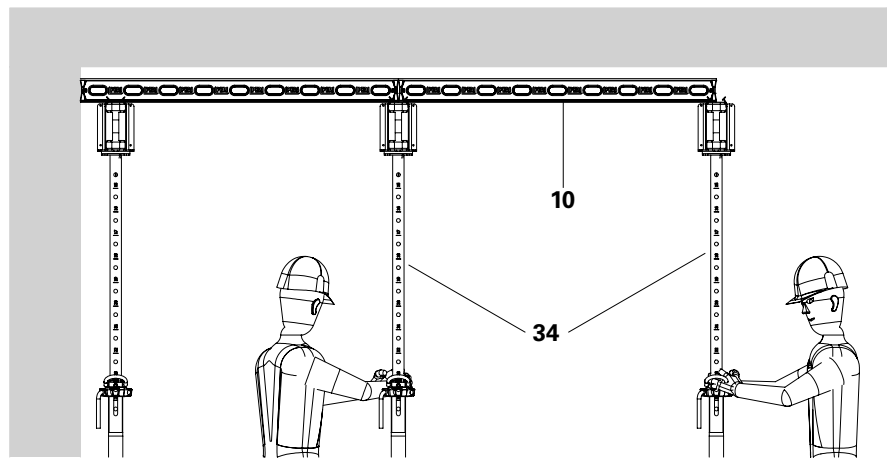

Fig. D6.23
3. Lower the slab props with crosshead (**34**) in the zone by approx. 5 - 6 cm. Use the DUO shuttering aid (**37**) to pull down "sticky" DUO DP panels (**10**). (Fig. D6.23)